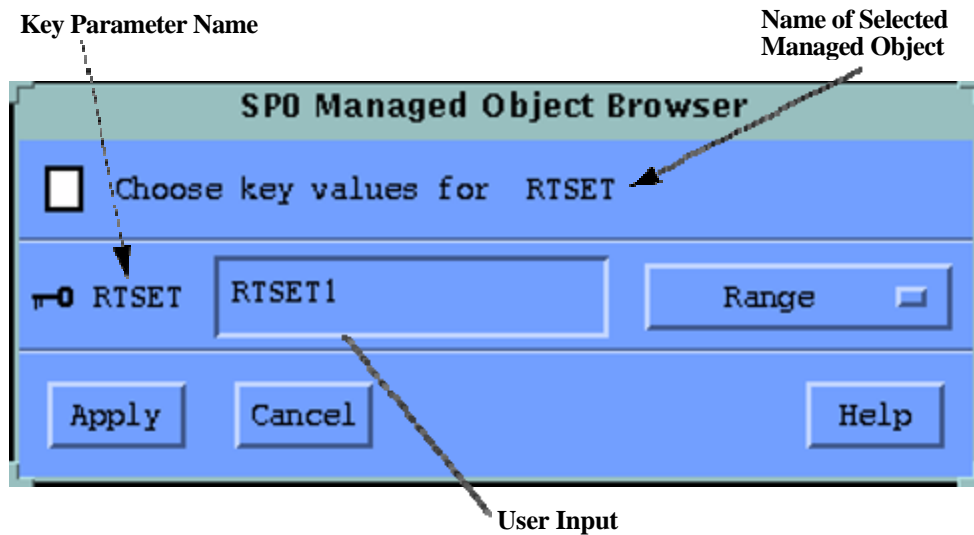

Figure 4-13: Key Selection Dialog Box
Key parameters are identified by a key symbol as seen in Figure 4-13 on page 4-57. In the key selection dialog box, only the key parameters are listed for input by the user. The other dialog boxes show the key values, but do not allow them to be changed. They cannot be changed because they act as the *title* of a particular instance.
The data type of an parameter identifies whether it must be a numerical value, a point code value, or a general alphabetical string. The data type can either be a *Set* type or a *Range* type which is deduced from the range information in the **Range** popup menu next to the parameter's value field. Information on sets or ranges can also be found in the MMI/MML chapters of this manual. Menus can be viewed by clicking on the **Range** or **Set** button with the LEFT mouse button (see Figure 4-13). These menus list the complete set of allowed values or the range of values, from minimum to maximum. Values can be selected directly from these menus (see Range Menus).
After selecting a valid managed object, a popup key selection dialog box similar to Figure 4-13 appears. The dialog box shows the managed object name that was selected and the key parameter(s) for which a value must be supplied. Only the key parameters are listed in this box. Other dialog boxes will show the key values, but do not allow them to be changed. In this dialog box, space is available next to each key parameter name to enter the key value. If more than one key parameter appears in the list, all must be specified in order to uniquely identify the single instance. Entering data in a dialog box is covered in Section 4.6.2.4 on page 4-49.
3. Enter values for all fields in the key selection dialog box that pops up. (Figure 4-13 on page 4-57)
3. Identify the instance through the key selection dialog box that pops up. (Figure 4-13 on page 4-57)